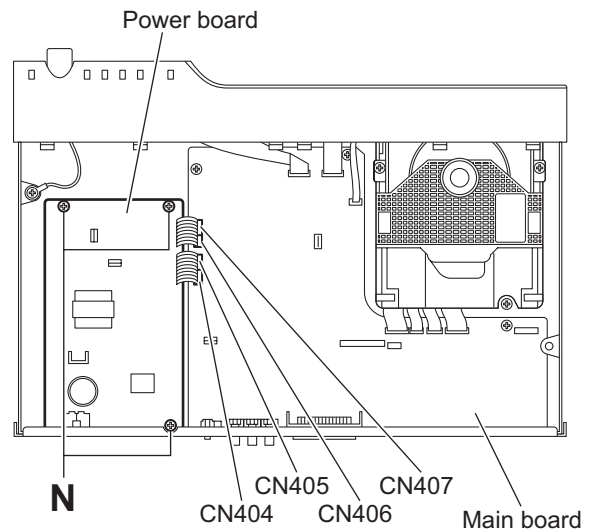

Fig.11
- (2) From the top side of the main body, disconnect the parallel wires from the connectors CN404 to CN407 on the main board. (See Fig.11)
- (3) Remove the three screws **N** attaching the power board. (See Fig.11)
- (4) Take out the power board from the main body.